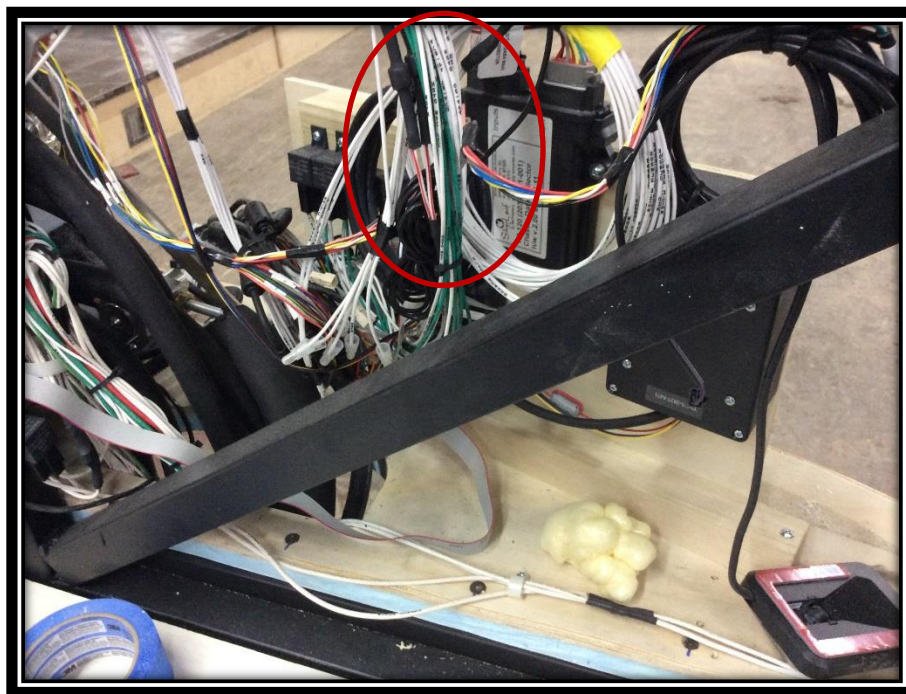

FIG. 4-2
3. Locate TM120 module, located against back wall inside dash. Connectors are oriented up. Refer to FIG. 4-2.